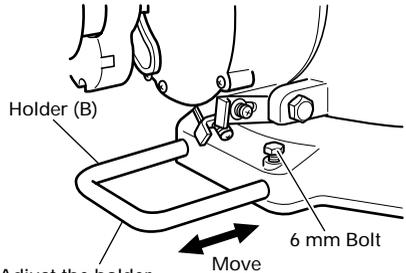

Fig. 5
3. **Holder (B) adjustment (Fig. 5)**